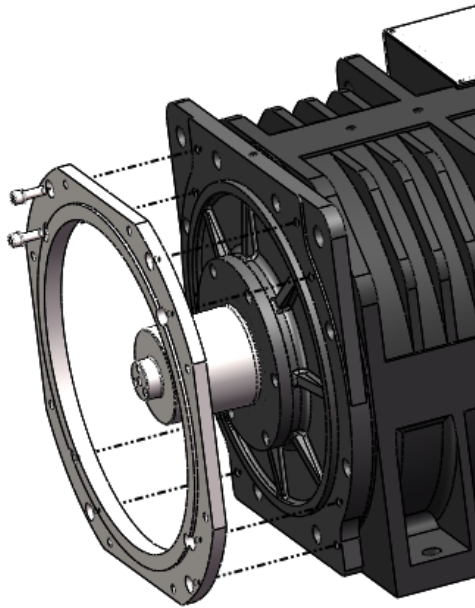

Figure 77 Remove Junction Plate (TMGL2A only)
3. Loosen the Screw M12x35 (8 pieces) with hex wrench (10mm), and remove the Junction Plate. See Figure 77. **(This step is only for TMGL2A)**